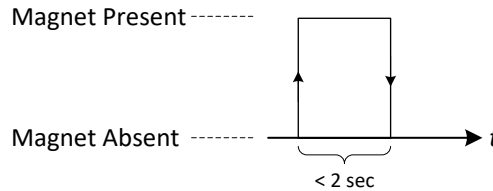

Figure 1-2: The Sensor magnetic UL-triggering pattern.
The magnetic pattern in this case is not user configurable, and involves attaching and taking away the magnet to and from the magnet sign at the bottom of the enclosure once, all in less than 2 sec, as shown in Figure 1-2. *It is important to note here that mistakenly holding the magnet attached to the module for more than 3 sec may trigger a module reset, as explained in item 1.*